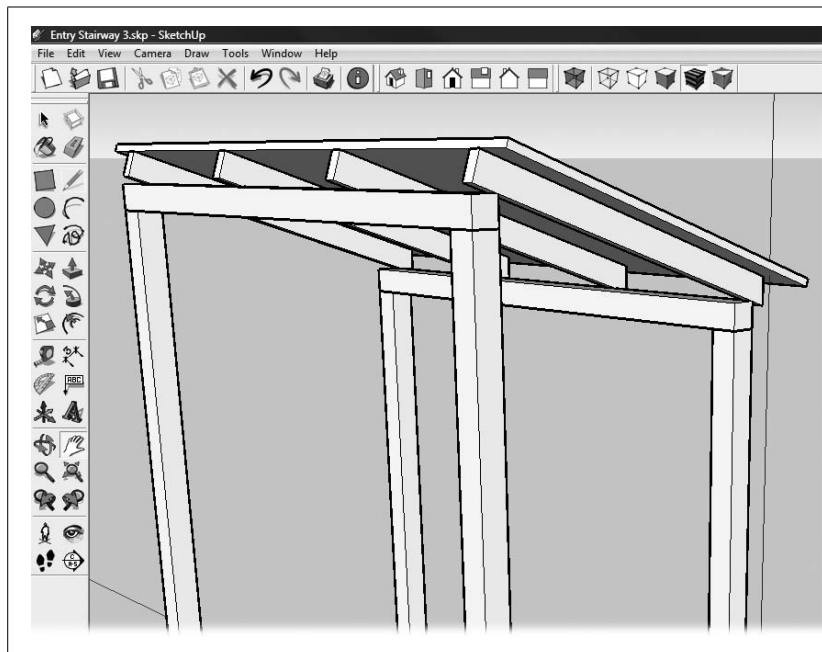

Figure 7-19:
the Eraser (E) to delete the extra edges. Check all the sides and the bottom when you're removing unneeded edges. If on inspection, you have some missing faces, use the Line (L) tool to retrace the edges. After an operation like creating this plywood roof, you may need to do some cleanup using right-click → Reverse Faces or the Eraser (E). Your completed roof looks like Figure 7-19.